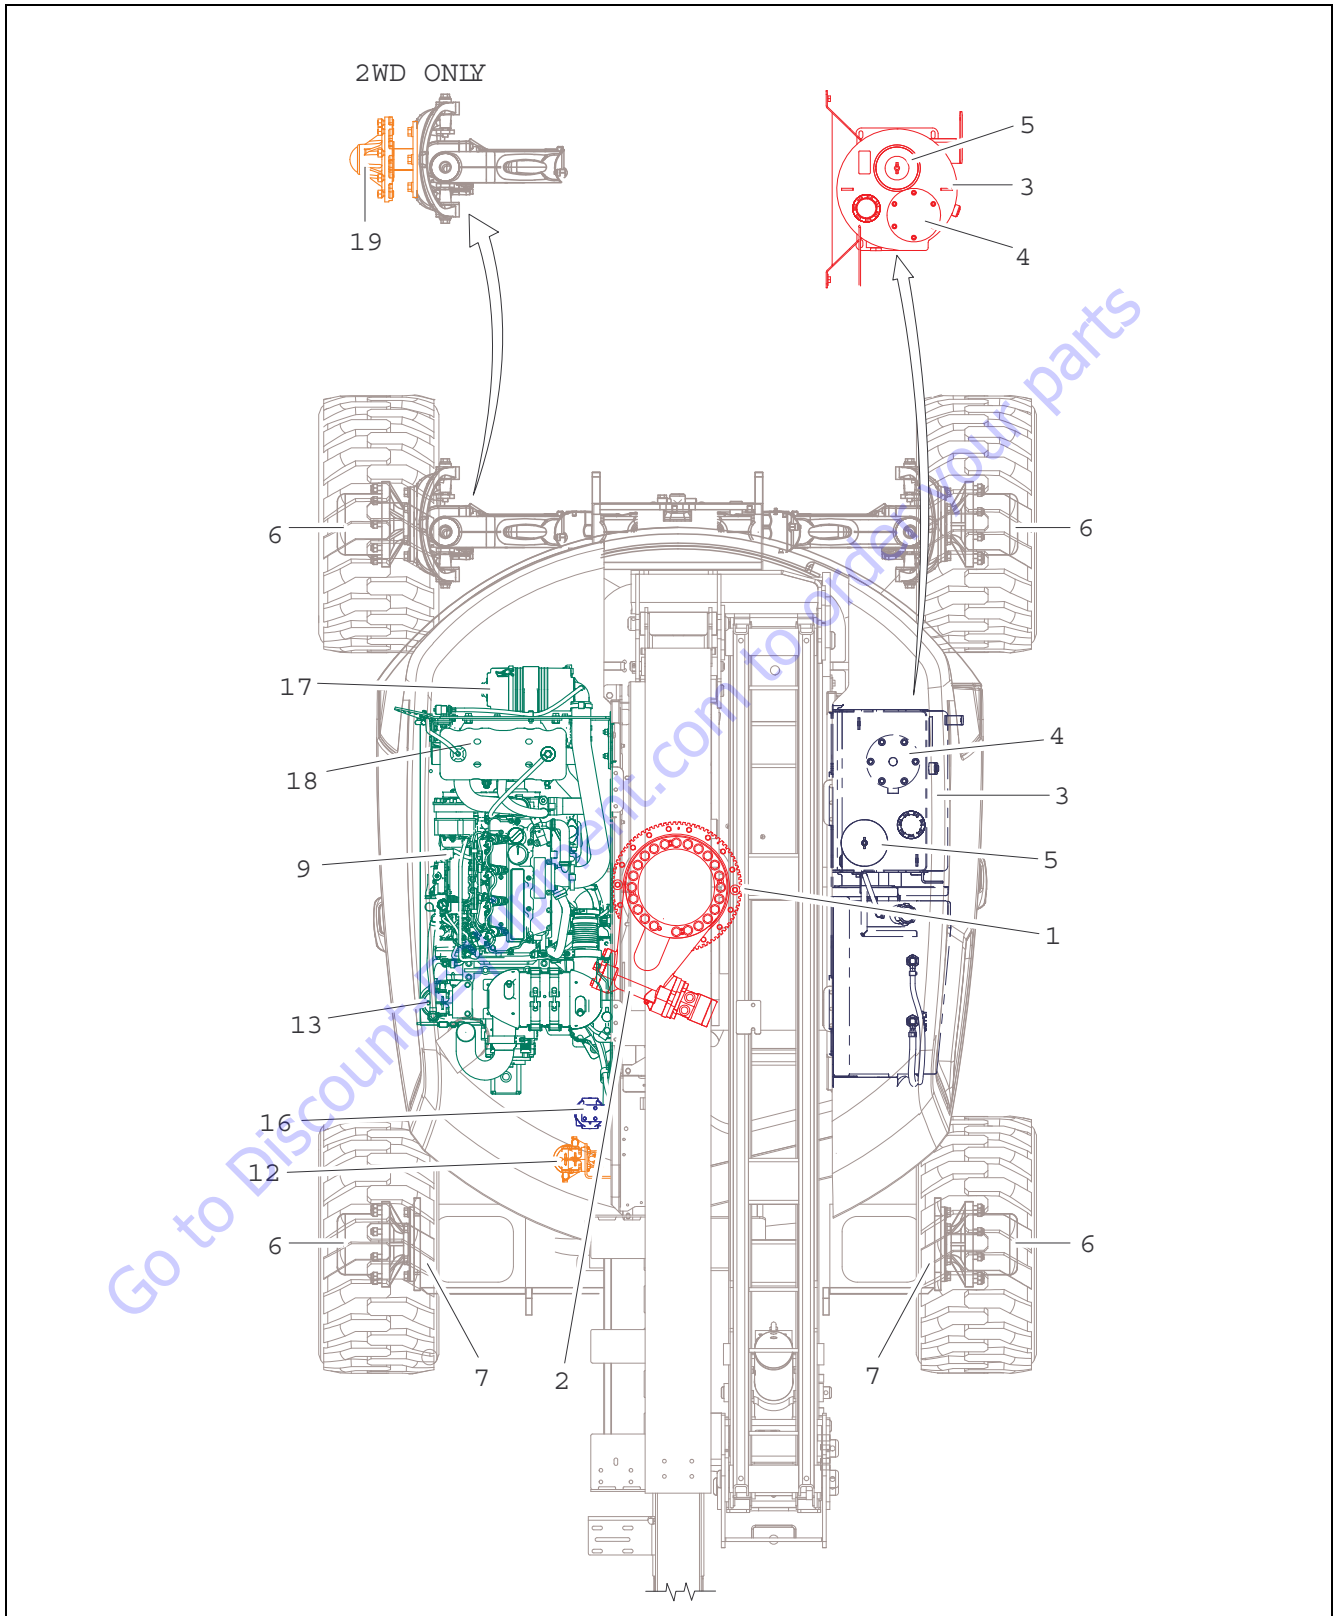
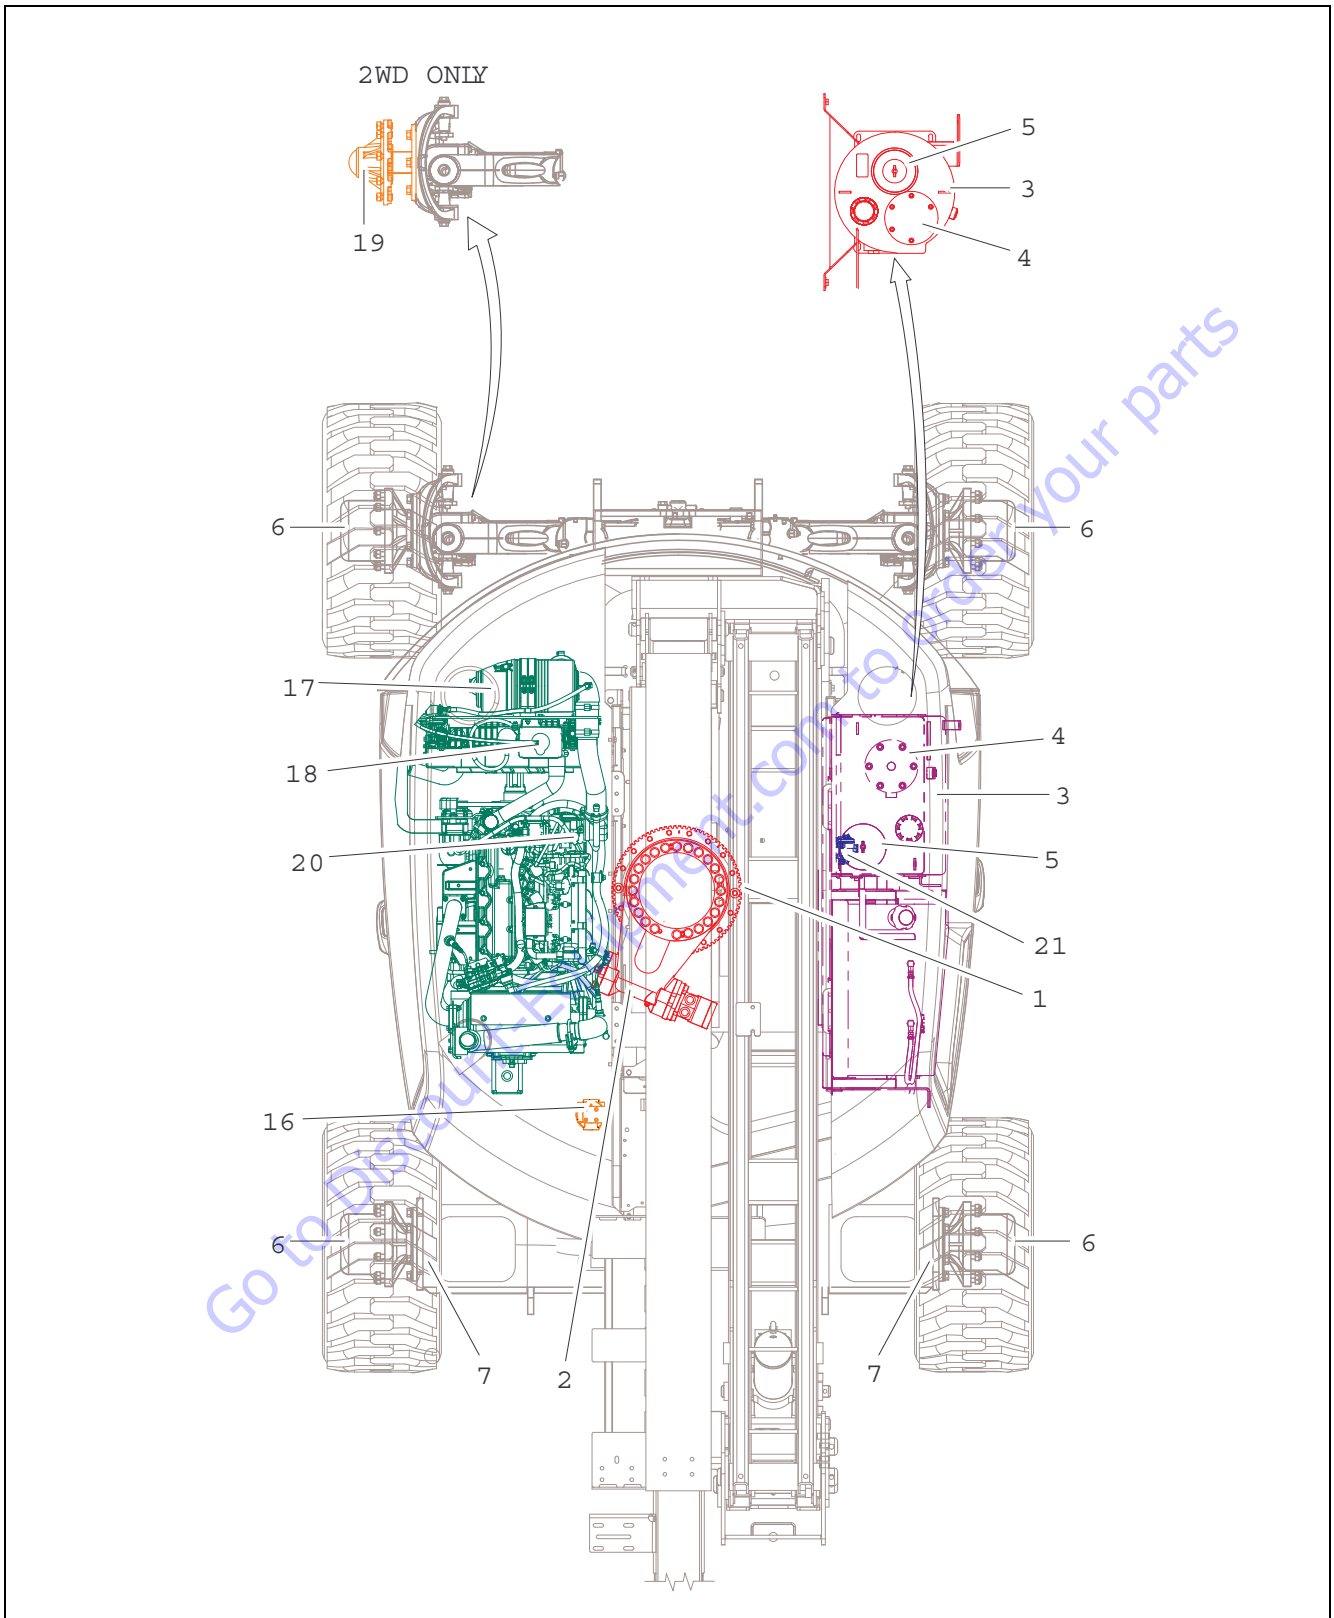

Figure 1-2. Maintenance and Lubrication Diagram - Deutz 2.9L Engine
Figure 1-3. Maintenance and Lubrication Diagram - Kubota Engine
**NOTE:** The following numbers correspond to those in Figure 1-1., Maintenance and Lubrication Diagram - Deutz 2.3L Engine, Figure 1-2., Maintenance and Lubrication Diagram - Deutz 2.9L Engine, and Figure 1-3., Maintenance and Lubrication Diagram - Kubotas Engine.